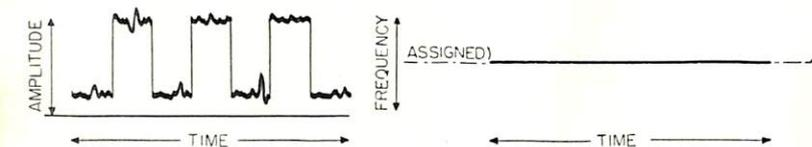

FIGURE 2.—Receiver response to on-off keyed signals when converted by (left) a conventional detector and (right) by an FM discriminator.
One 1/4" copper sealing bonnet will be required. These are the steps to follow: 1. Remove the 1/4" copper tubing which extends from the back side of the unloader valve (14) to the bottom side of the air check valve (15), as shown in the figure. 2. Replace the flared-fitting nut on the unloader valve to prevent the thread from becoming burred. 3. Seal off the outlet on the bottom side of the air check valve, which was opened by removing the 1/4" copper tubing, with a 1/4" sealing bonnet and the flared-fitting nut removed in step 1.
axis which carries the intelligence (the amplitude axis in this case). This is shown graphically in figure 2. When scanned along the amplitude and time axes, figure 2 (1), the intelligence appears as large changes in signal amplitude. In a theoretically perfect circuit, this variation would be from zero amplitude for the intervals when the key is open, to a maximum value when the key is closed. But extraneous components of energy due to atmospherics, interfering stations, etc., appear as additional variations along the amplitude axis, and when these extraneous components of energy approach or exceed the value of signal variation, the signal is "blacked out by interference." Figure 2 (r) represents the same signal as scanned along the frequency and time axis. Variations in signal amplitude have no effect on this figure, so no intelligence can be received, but neither is the effect of noise and interference apparent.